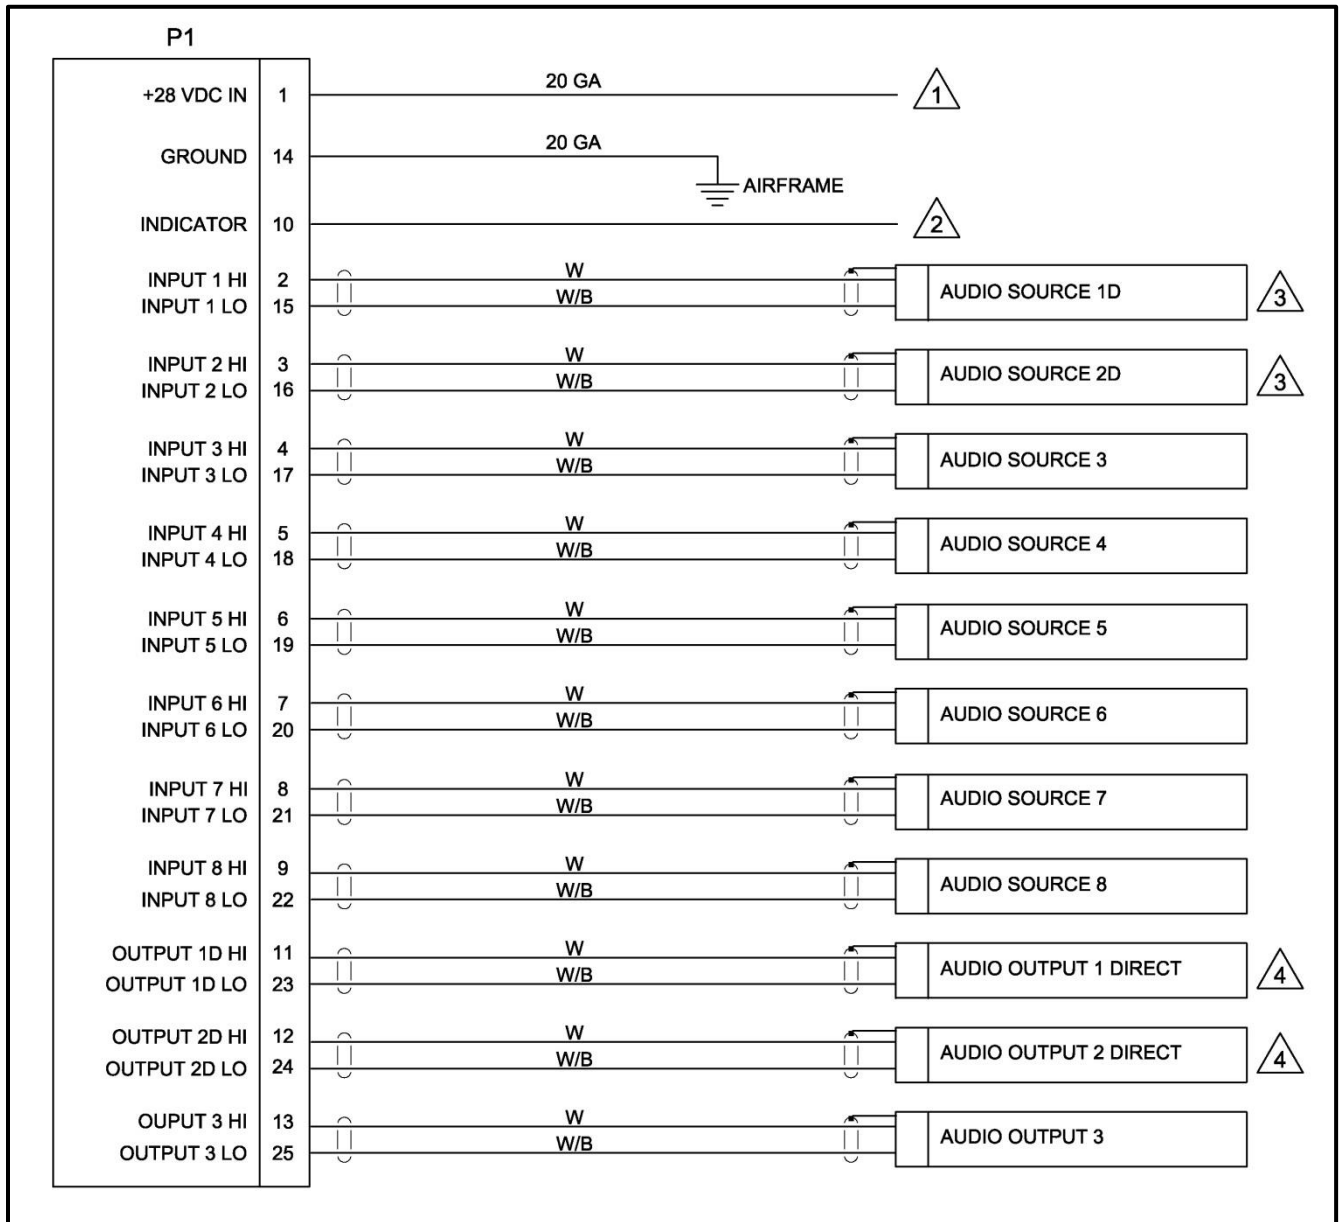

Figure 2 Cable Wiring
- 6.2 Refer to Figure 2 for cable harness fabrication instructions to connect to the Audio Mixer.
- 6.9 Notes for Figure 2: